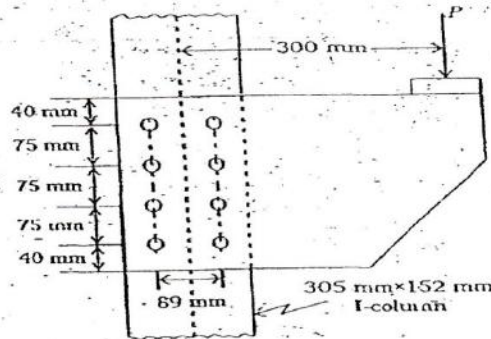

Fig. 4
12. (a) The bracket shown in Fig. 4 consists of pair of mild steel plates riveted to the flanges of $305\text{ mm} \times 152\text{ mm}$ I-column. If the resultant force on the critical rivet is limited to 45 kN, determine the load P , the bracket can support. 15